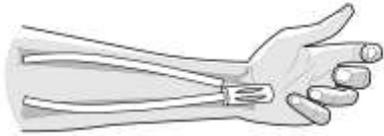

Figure 3. Placement of tunneler sheath for coiled configuration implantation
- 8.4.2.9. Make sure the centered-coil graft U-bend apex is located exactly in the middle of the distal window to prevent graft kinking at the coiled non-coiled borders of the graft (see Figure 3 & 4)